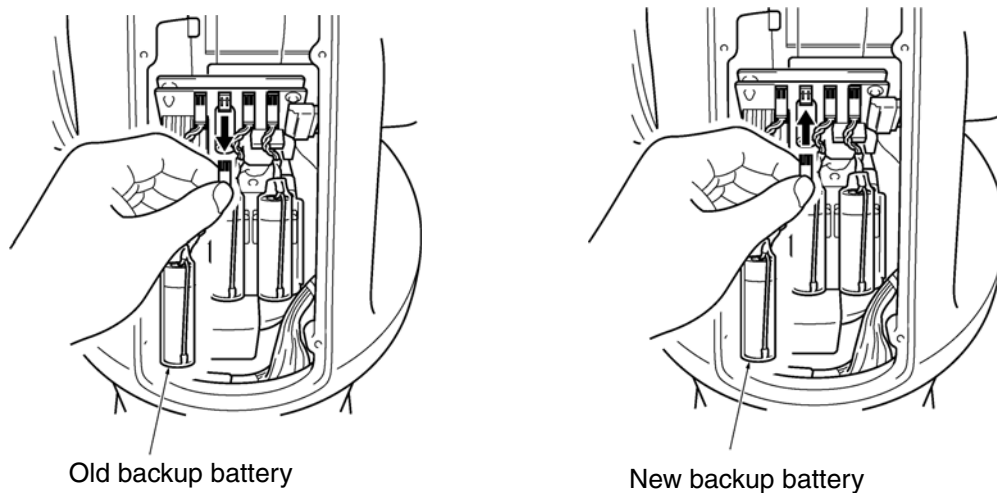

Figure 6-5. Connecting Second New Battery
6. Disconnect the old backup battery that is right next to the new battery connected in Step 5, and then connect a new battery (2nd one). See Figure 6-5 on page 64.